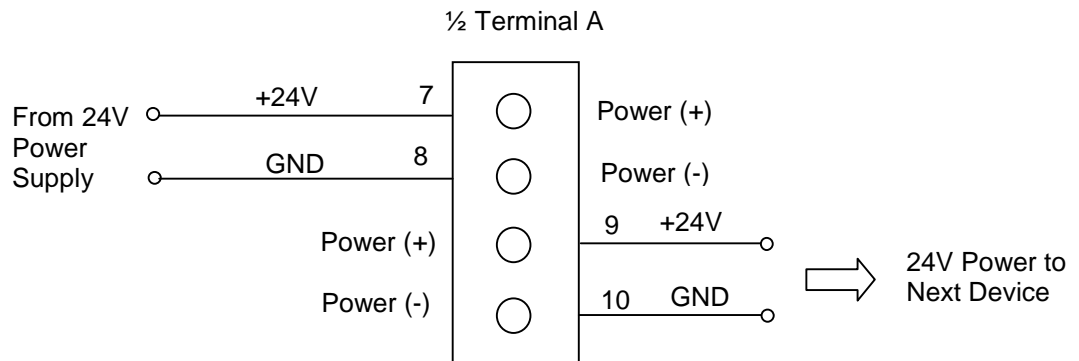

Figure 10 Wire Connection Details for Power
- Connect the power wires to the Power terminals as shown in Figure 10.